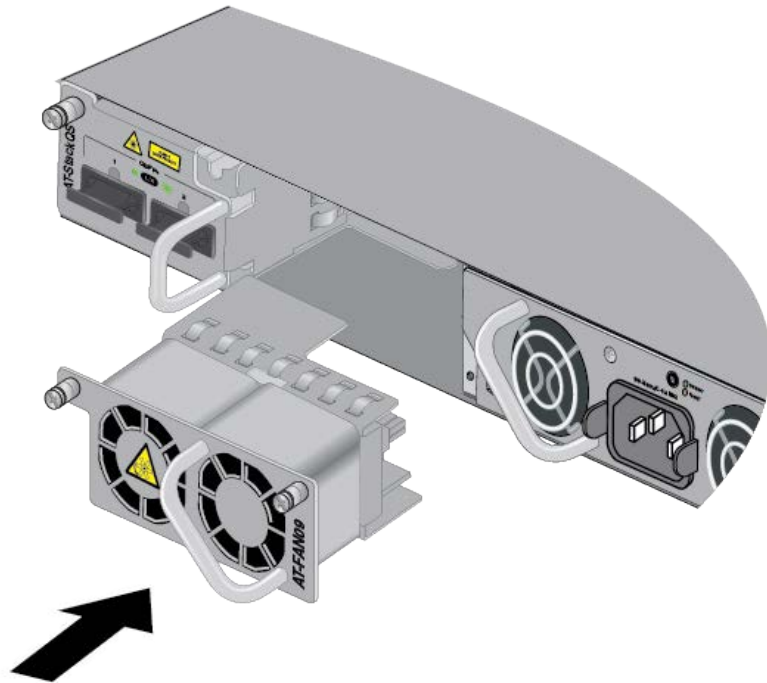

Figure 38. Aligning the AT-FAN09 Module in the Slot
11. Align the AT-FAN09 Module in the slot and carefully slide it into the switch. Refer to Figure 38.